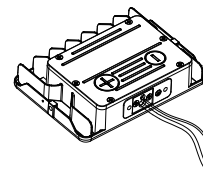

figure 3.1
- Step 1: Take the lamp out of package;( figure 3.1)